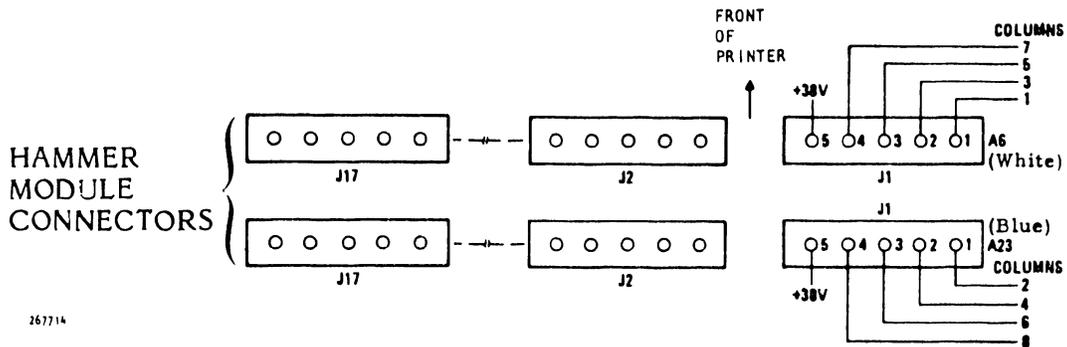

Figure 3-41. Hammer Flight Time Adjustment, Probe Sequence
1. Move the oscilloscope probe in sequence from J1-2 through J17-4 and adjust the corresponding backstop screw until the flight time signal is identical to that set on hammer number one (see figure 3-41). This procedure will adjust all the hammers of the 300 LPM printer and all odd hammers of the 600 LPM printer.
- m. For the 600 LPM printer, move the oscilloscope probe in sequence from J1-1 through J17-4 on the second Hammer Drive CCA (A6) and adjust the corresponding upper row backstop screw until the flight time signal is identical to that set on hammer number one (see figure 3-41). This procedure will adjust all even hammers of the 600 LPM printer.